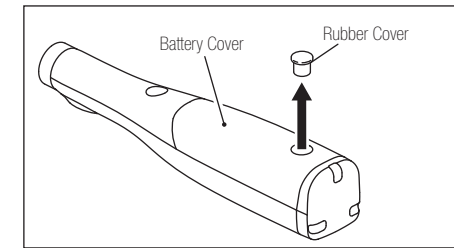

Fig. 13
- 2) Remove the Rubber Cover from the Battery Cover with a thin flatblade screwdriver. (Fig. 13)